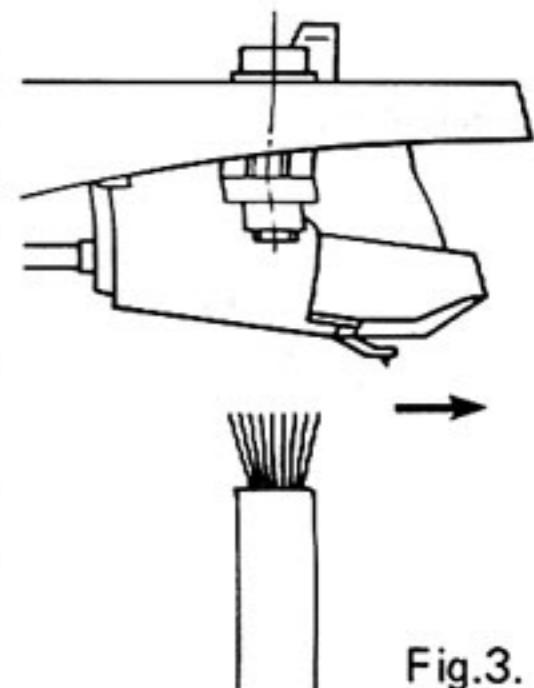

Fig.3.
2. Before playing a record, clean the stylus tip of dust by wiping it gently with a stylus cleaner in the direction of the arrow in Fig. 3.